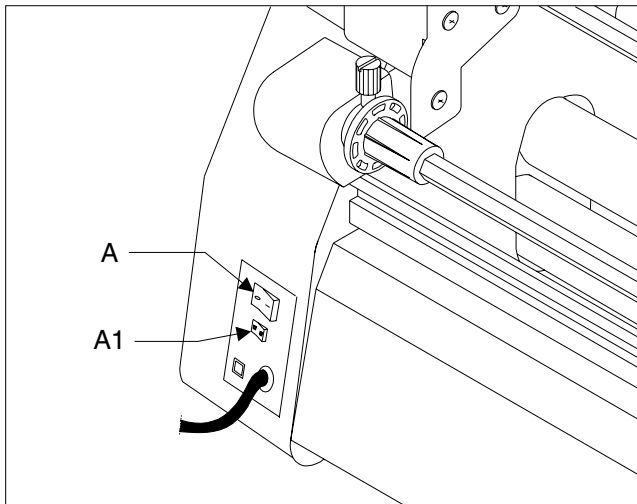

Fig. 1
A. POWER SWITCH: Fig. 1. Located at the back of the machine applies power to the laminator. The LED display panel will illuminate when position marked "I" is pushed. The off position, marked "O", removes power from the laminator.
A1.FAN SWITCH: Fig. 1. Located at the back of the machine applies power to the fans when position marked (I) is pushed. The off position marked (O) removes power from the fans.